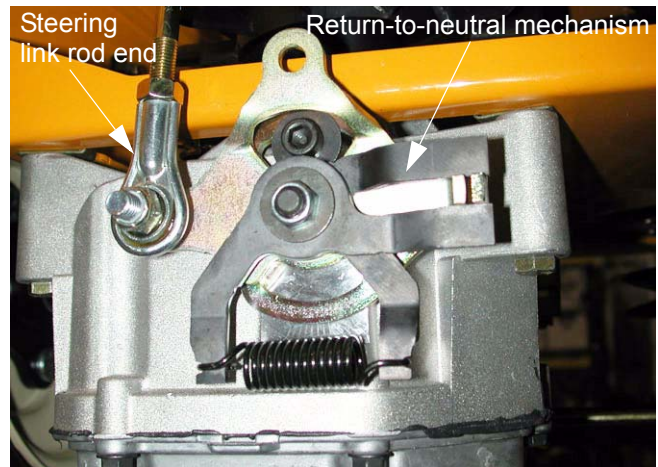

Figure 6.13
- 6.13. Using two 1/2” wrenches, remove the Nylock nut holding steering link rod end to the return-to-neutral mechanism. See Figure 6.13.